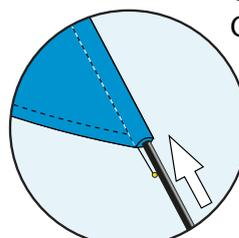
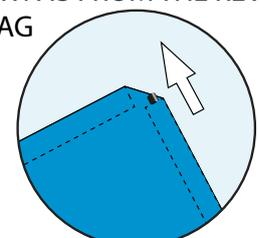

Fig 3.
Fig 4.
3. Take the 2.5m (28mm) top pole section with the cleat and joint at the bottom, and insert it into the bottom of the vertical sleeve. (Fig 3) Push it all the way up until it comes out the top of the sleeve. (Fig 4)